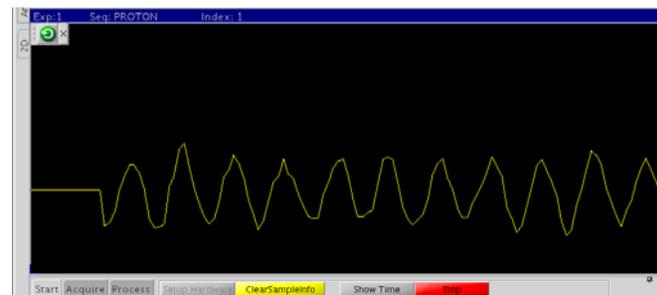

Figure 1 High frequency sine wave: Z0 far from correct setting. Minimize frequency using the Z0 slider.
- c. If it looks like a high frequency sine wave (Figure 1), or you don't see a sine wave at all continue to next step.